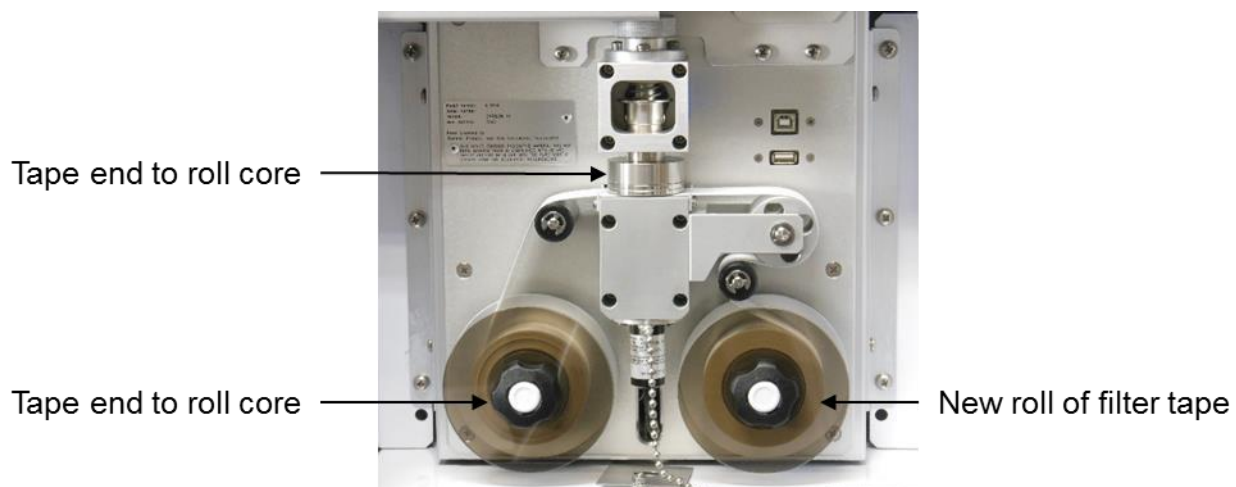

Figure 2-14 Proper Loading of the Filter Tape
4. Load the new roll of filter tape onto the right (supply) reel and route the tape through the nozzle area as shown in Figure 2-14. Attach the loose end of the filter tape to the empty core tube with tape.